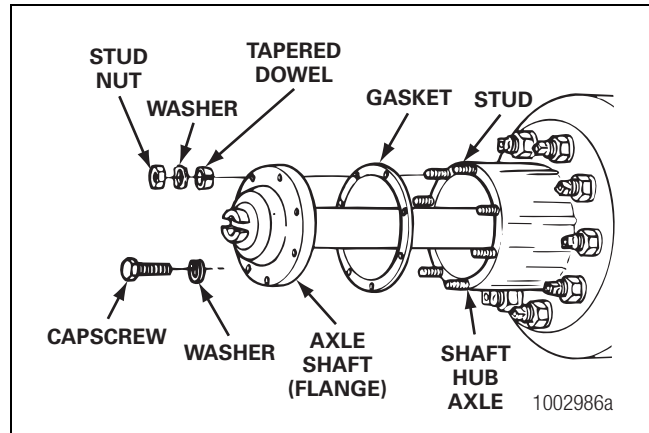

Figure 3.4
4. Remove the tapered dowels. Separate the axle shafts from the main axle hub assembly. Figure 3.4.
4. Remove the tapered dowels. Separate the axle shaft from the main axle hub assembly. Figure 3.4.